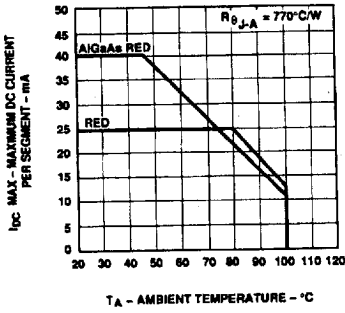

Figure 3. Maximum Allowable DC Current vs. Ambient Temperature.
- See Figure 3 to establish pulsed conditions.